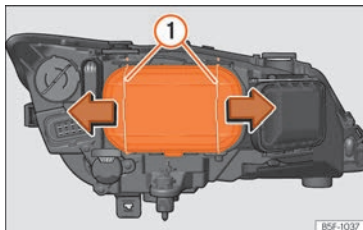

Fig. 54 Dipped beam headlights.
- Move the loops » **Fig. 54** ① in the direction of the arrow and remove the cover.